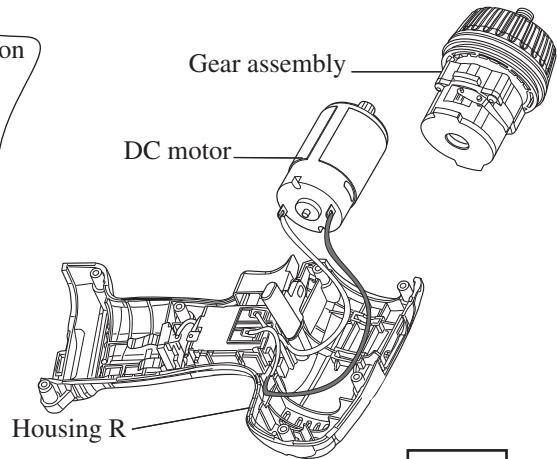

Fig. 4A
Gear assembly can be separated from DC motor. See Fig. 4A.
- (2) Mount gear assembly to DC motor. See Fig. 4A. Assemble gear assembly, speed change lever and DC motor to housing R together, paying attention to < Note 1 > and < Note 2 >. See Fig. 6.